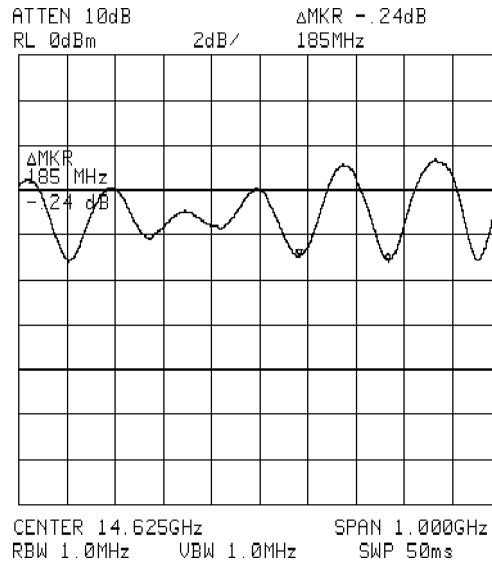

Figure 3-17. Fault Isolation with Markers on Ripple Nulls
3. Refer to Figure 3-17 for an example of the resulting display.